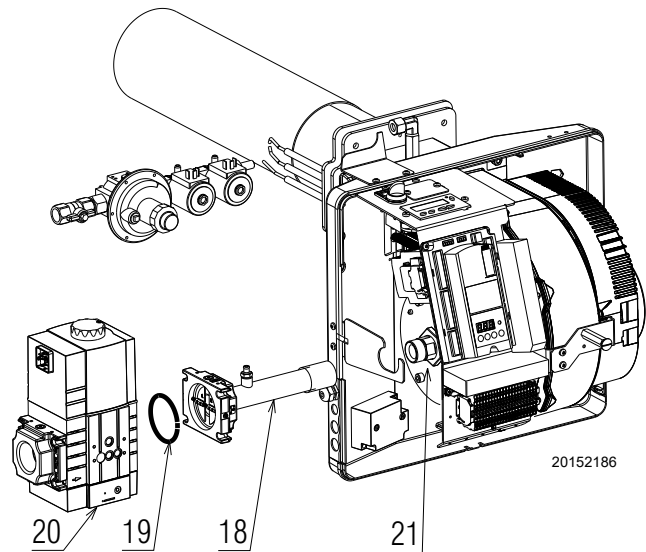

Fig. 17
- secure the pipe of the train 8)(Fig. 17) to the threaded joint of the gas mixer 21) using a suitable sealant for the gas seals.
Use a suitable sealant and check the general gas seal during operation, in particular with respect to tube 18)(Fig. 17).